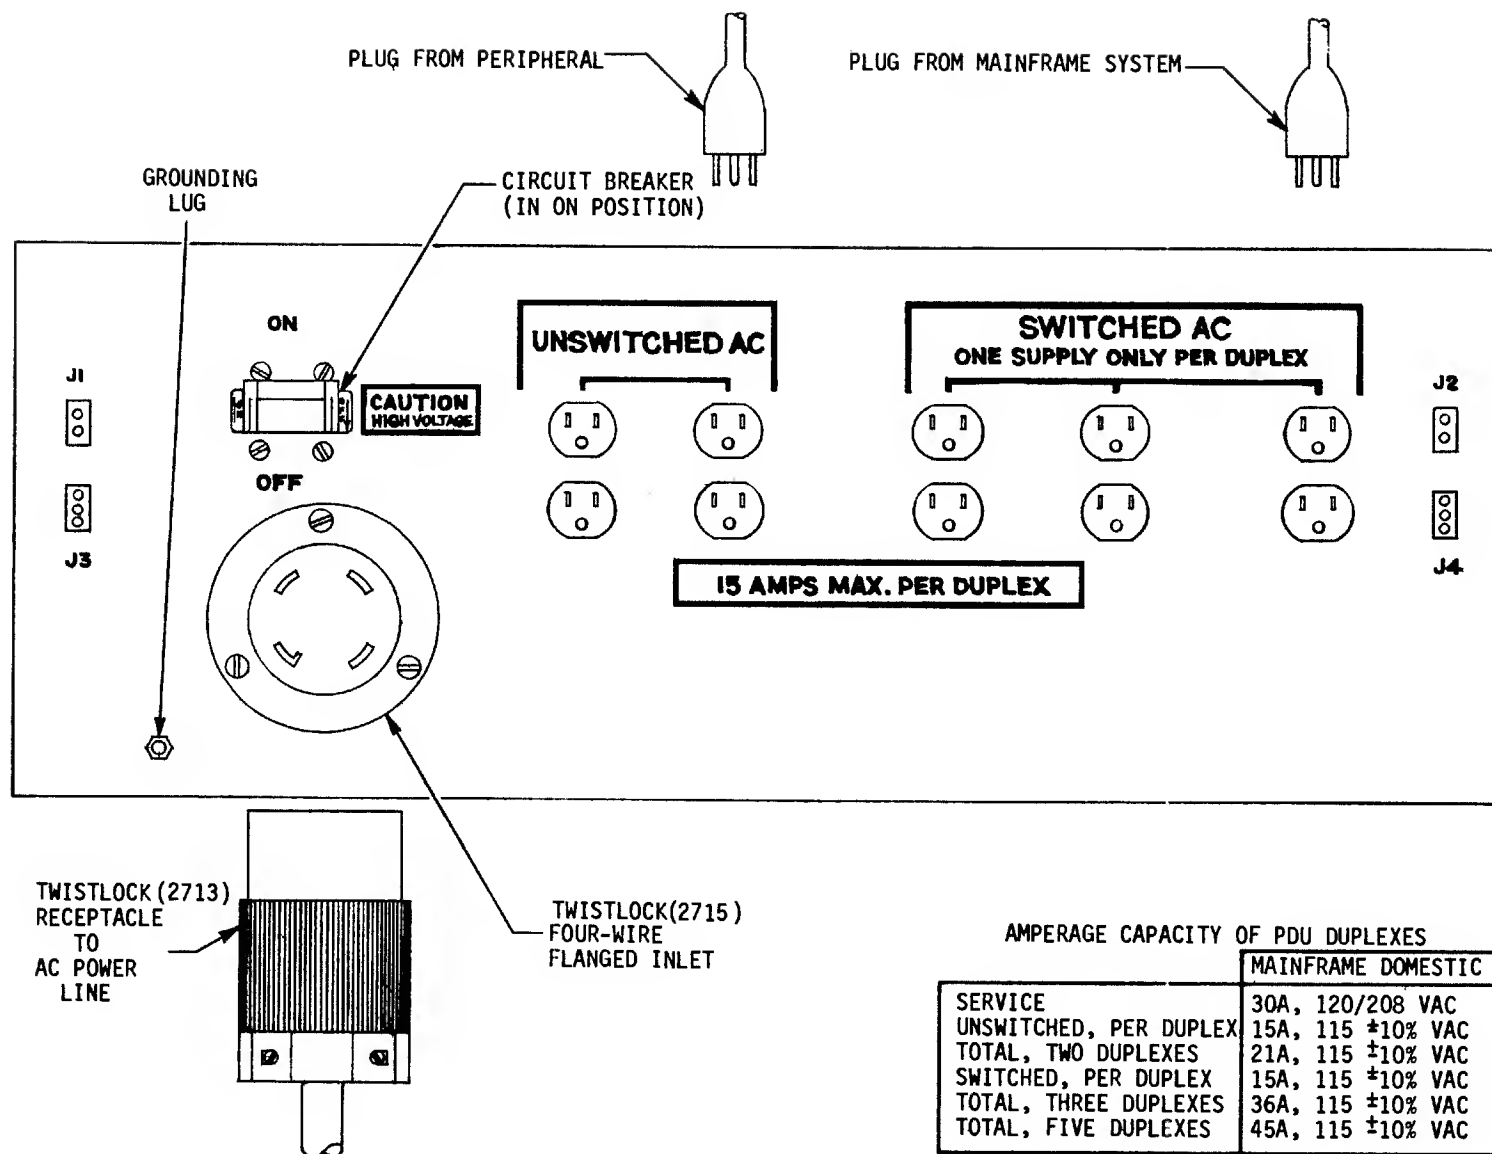

Figure 4-6. Domestic Mainframe Cabinet PDU
SWITCHED AC duplex receptacles on PDU's (Figures 4-6 and 4-7) are normally reserved for use with central-system power supplies; UNSWITCHED duplex receptacles are normally reserved for use with peripheral (cabinet-mounted or mountable) power supplies.
The orange-colored, two-wire line is connected permanently to the control panel and can be plugged into receptacle J2 of the mainframe PDU (Figure 4-6).
When all interconnection cables have been installed, verify that central systems or peripherals are connected to the AC receptacles on the mainframe PDU's. SWITCHED duplex outlets are normally reserved for use with central-system power supplies; UNSWITCHED duplex outlets are normally reserved for use with peripheral power supplies that may be mounted in the mainframe cabinet. SWITCHED outlets can be activated from the PDU circuit breaker, and from the control-panel keylock switch (when the circuit breaker is engaged). UNSWITCHED outlets can be activated from the PDU circuit breaker (only). (Refer to Figure 4-6 for an illustration of a mainframe PDU's five AC duplex receptacles.) When all cabinet internal power connections have been verified, connect the mainframe PDU with the primary power source:
- Verify that power cords enclosed within mainframe or peripheral cabinets are plugged into appropriate AC outlets on PDU's in accordance with figures 4-6 and 4-7.